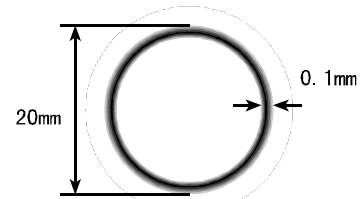

figure 1
b. $\phi 20\text{mm}$ ring (diameter of the ring lead: $\phi 0.1\text{mm}$)(see figure 1)